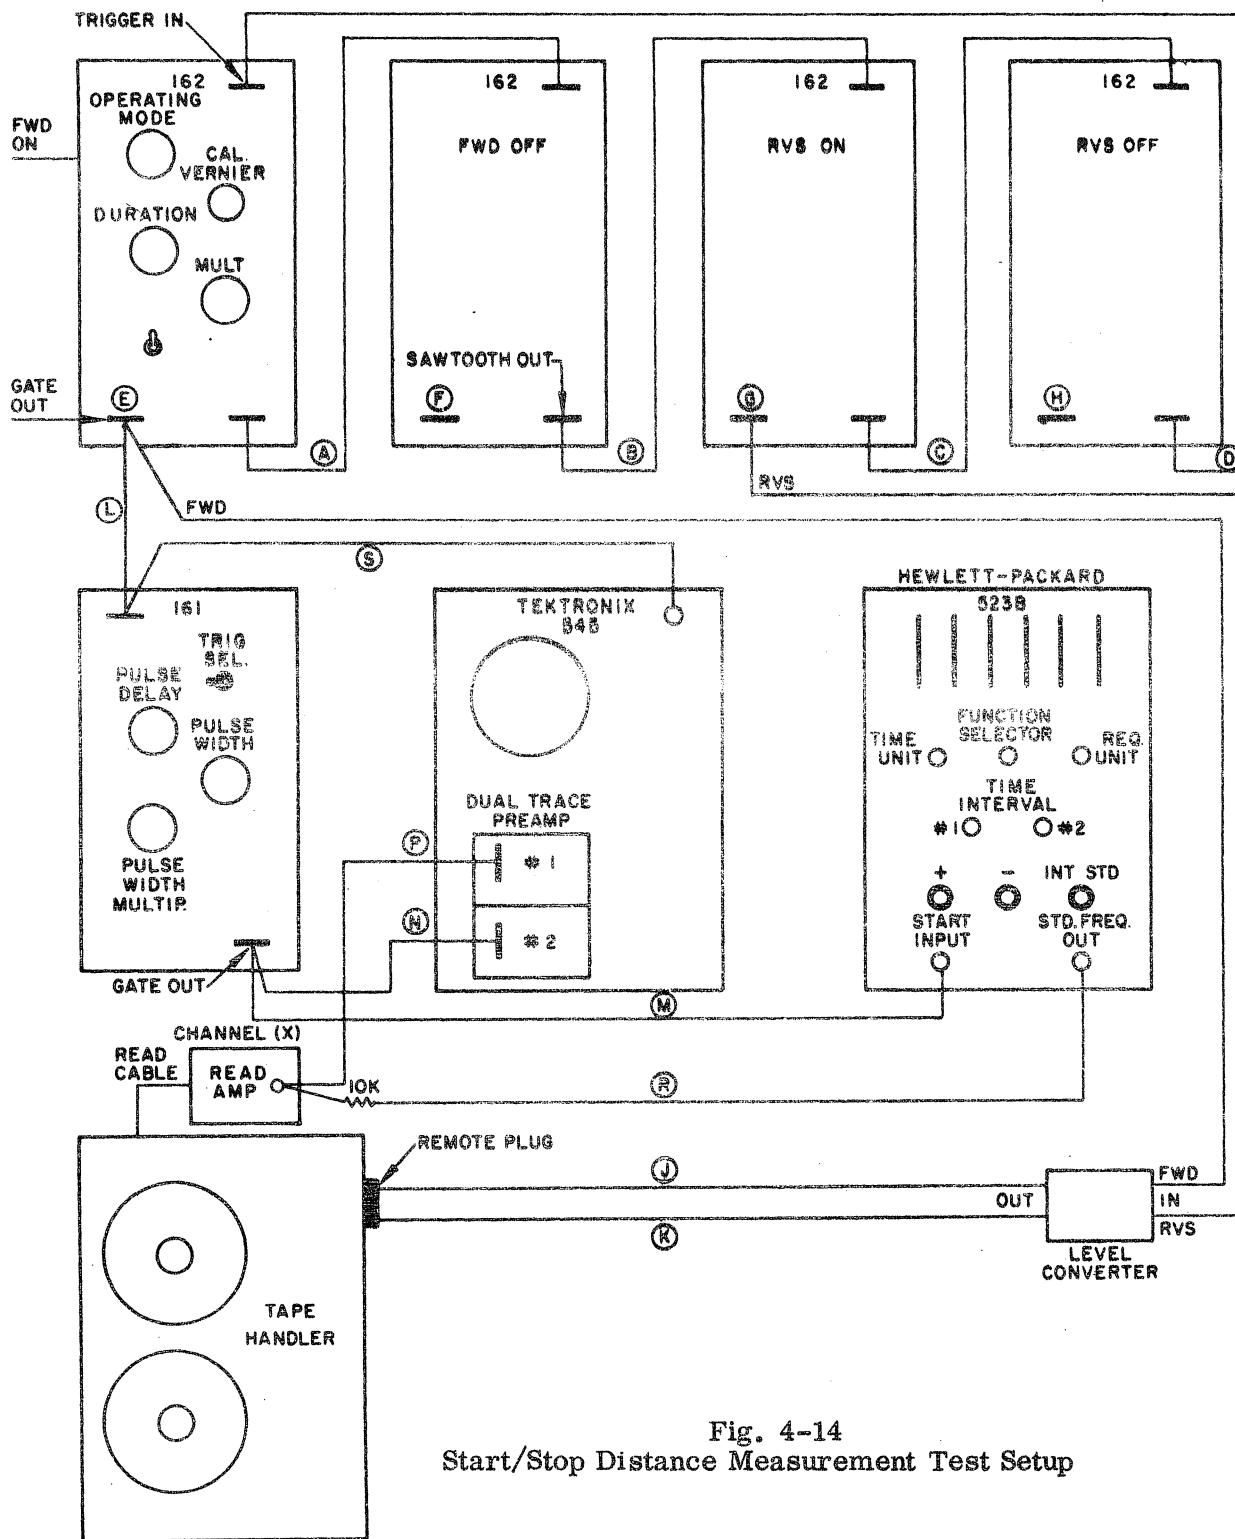

Fig. 4-14
Step 1. Connect test equipment as shown in Figure 4.14.
Step 4. Observe decay time of signal displayed on oscilloscope. Decay time should be 1.5 ms or less. A typical waveshape is shown in Figure 4.14.